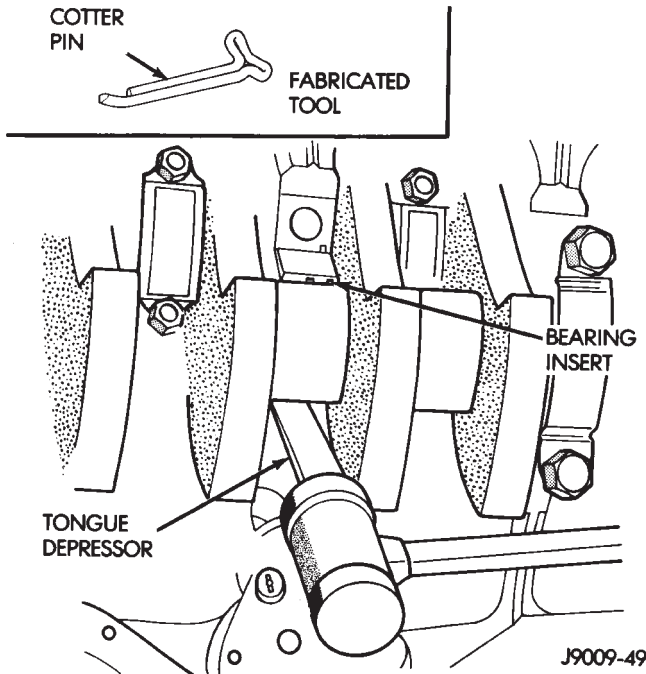

Fig. 2 Removing Upper Inserts
- (6) Remove the lower insert from the bearing cap.
- (7) Remove the upper insert by LOOSENING (DO NOT REMOVE) all of the other bearing caps. Now insert a small cotter pin tool in the crankshaft journal oil hole. Bend the cotter pin as illustrated to fabricate the tool (Fig. 2). With the cotter pin tool in place, rotate the crankshaft so that the upper bearing insert will rotate in the direction of its locking tab. Because there is no hole in the No.3 main journal, use a tongue depressor or similar soft-faced tool to remove the bearing insert (Fig. 2). After moving